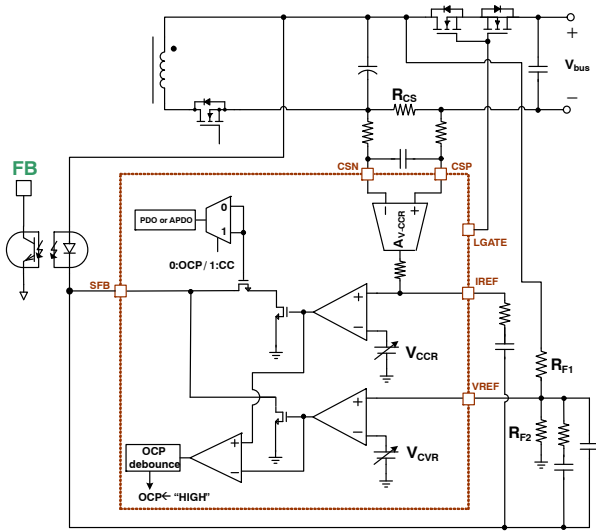
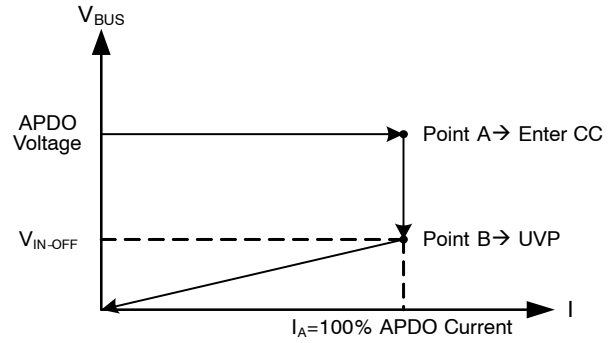

Figure 34. Voltage and Current Sensing Circuits
Figure 35. APDO CC Operation
Constant current (CC) control is enabled during USB PD APDO contracts (PPS modes). When CC mode is enabled, the supply will foldback the output voltage as the load increases in order to maintain a fixed output current as shown in Figure 35. Output current is sensed via a current-sense resistor  $R_{CS}$ , which is connected between the CSP and CSN pins. The sensed signal is internally amplified, and this amplified voltage is connected to the non-inverting input of the internal operational amplifier. Similar to the constant voltage amplifier circuit, it also plays a role as a shunt regulator to regulate the constant output current. In order to compensate output current regulation, one capacitor and one resistor are connected between the IREF and SFB pins as shown in Figure 34. The constant output current can be calculated using Equation 2.  $5m\Omega$  is typically used for the sense resistor.